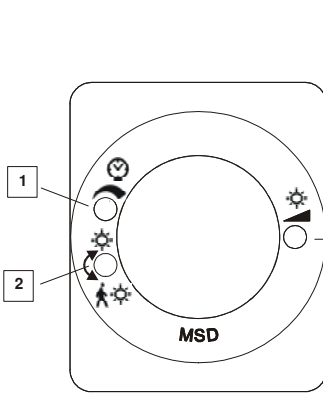

figure 1
- required constant light level to be adjusted with key (3), figure 1 10 seconds after the last setting of the key the adjusted brightness automatically is measured and the set light level is stored.
- delay time setting for the light level reduction with potentiometer (1), figure 1. Adjustable lagging range: 1 - 30 min.